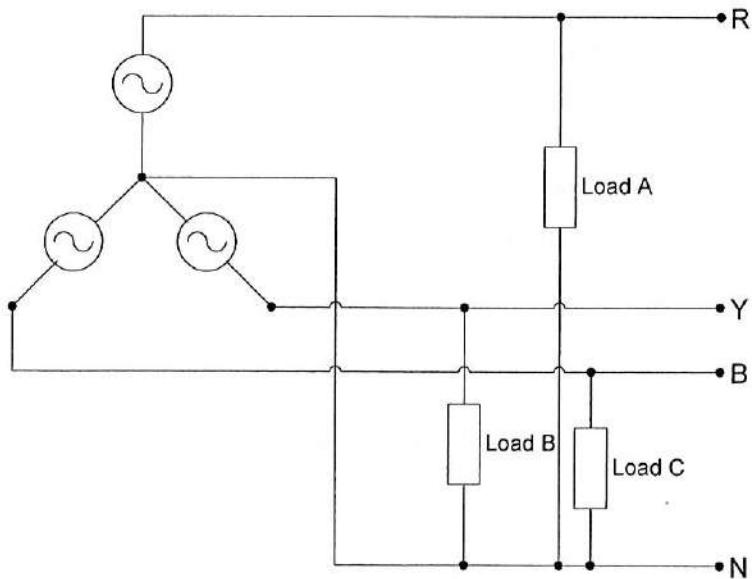

Figure Q2 (b) / Rajah Q2(b)
- (b) Figure Q2(b) shows a 3-phase load connected to a supply of 346 V, 4-wire, star connected 3-phase substation transformer. Each load has the following criteria;